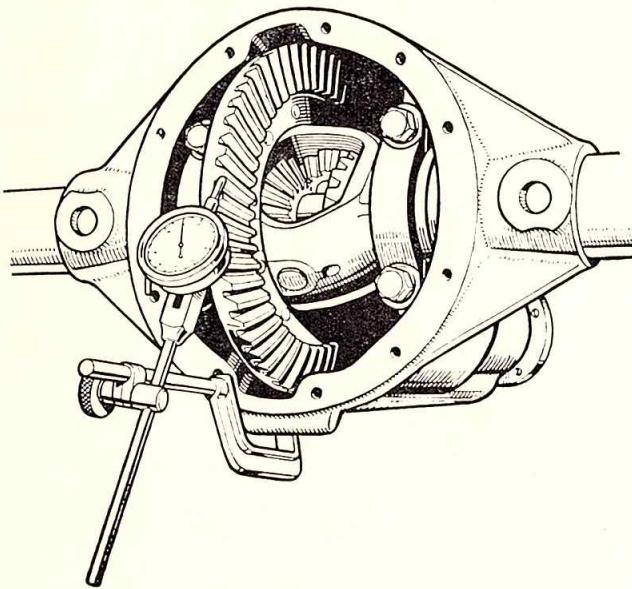

Fig. 17. Checking backlash between gears.
- (1) Place the differential assembly with bearing cups, and less shims, in the housing, being sure that the bearing cones, cups and housing are perfectly clean.
- (2) Install a dial indicator on the housing with the button on the back face of the drive gear as shown in Fig. 17.
(10) Mount a dial indicator on the gear carrier housing with the button against the back face in a similar manner to that employed for differential bearing adjustment, as shown in Fig. 17. Turn the pinion by hand and check the run out on the back face, which should not exceed .005" (.13 mm.). If there is excessive run out, strip the assembly and rectify by cleaning the surfaces locating the drive gear. Any burrs on these surfaces should be removed.
(11) Remount the dial indicator on the gear carrier housing with the button against one of the drive gear teeth, as nearly in line with the direction of tooth travel as possible (see Fig. 17). Move the drive gear by hand to check the backlash which should be as etched on the gear. If the backlash is not in accordance with the specification, transfer the necessary shims from one side of the differential case to the other to obtain the desired setting. To increase backlash, remove shims from the drive gear side of the differential and install on the